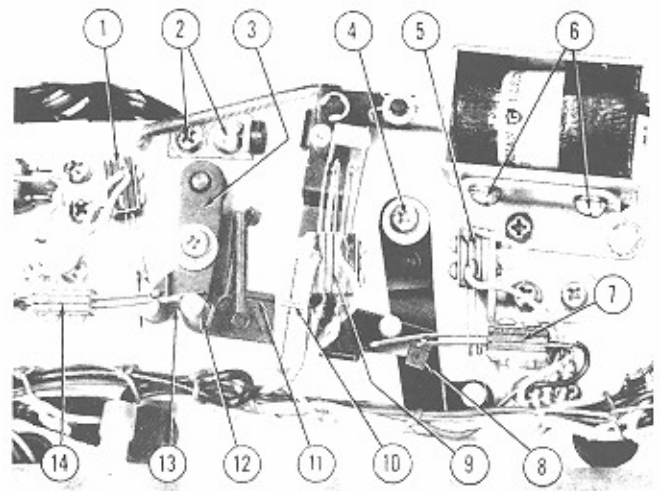

Fig. 39. SELECTOR SWITCH ADJUSTMENTS
b. With the latch solenoid resting against the stop bracket loosen the two screws (Item 2, Fig. 39) and set the bracket to provide 1/32" clearance between the letter latch pin (Item 12, Fig. 39), and the letter pawl (Item 13, Fig. 39).
c. Both the letter latch pawl and the number latch pawl (Items 3 and 4, Fig. 39) have adjusting